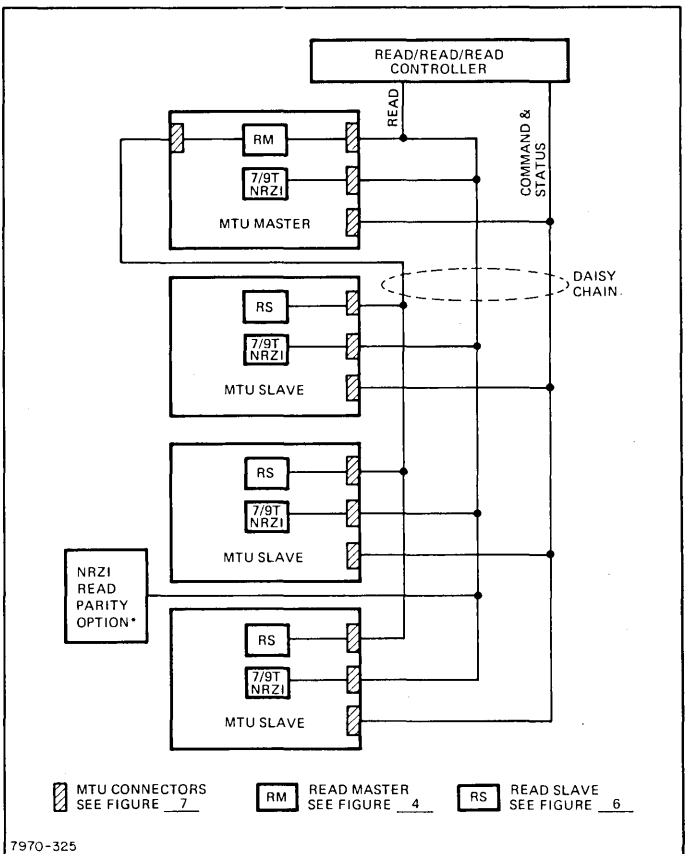

Figure 3b. Read/Read/Read 7/9-Track PE/NRZI Configuration
(2) **Read/Read/Read 7/9-Track PE/NRZI (Figure 3b).** Both master and slave units contain the same command-and-status and 7/9T NRZI read electronics. Complete PE read data is in the master unit only. The slave unit PE read capability is accomplished through the master read electronics for multi-unit parallel-connection operations. The PE and NRZI controller interfaces may be used as separate connectors (figure 7), or in parallel from the PE connector when the parity option is used (figure 3b). This is accomplished by the daisy-chain method shown in figure 3b. Complete 7- and 9-track PE/NRZI read/read/read capabilities are contained in a single unit. A constant transfer rate option is available in this configuration if a constant data transfer rate between PE and NRZI is required. Density selection is front-panel selectable.